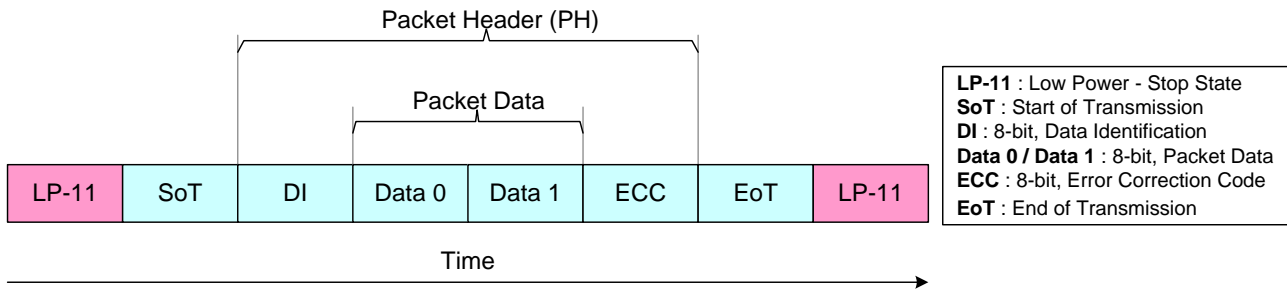
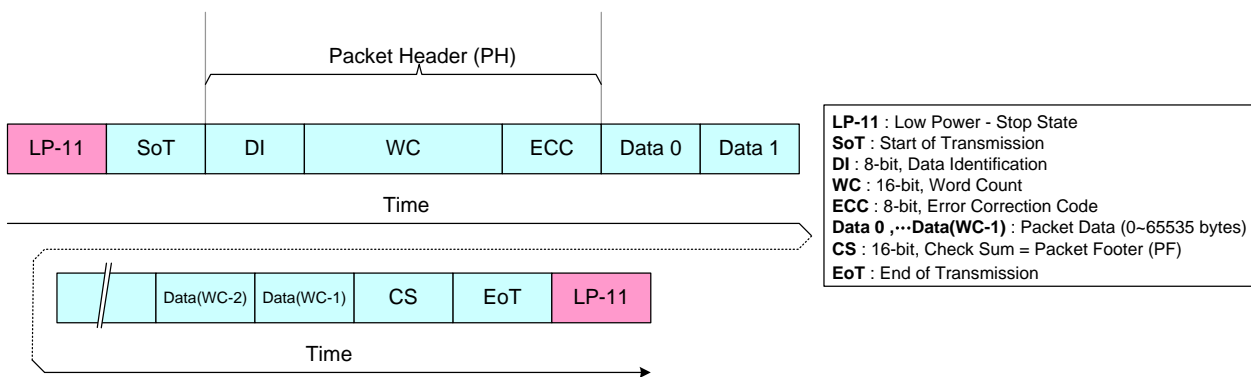

Figure 31: Short Packet (SPa) Structure
Figure 32: Long Packet (LPa) Structure
1. Figure 31 and Figure 32 present a single packet sending (= Includes LP-11, SoT and EoT for each packet sending).